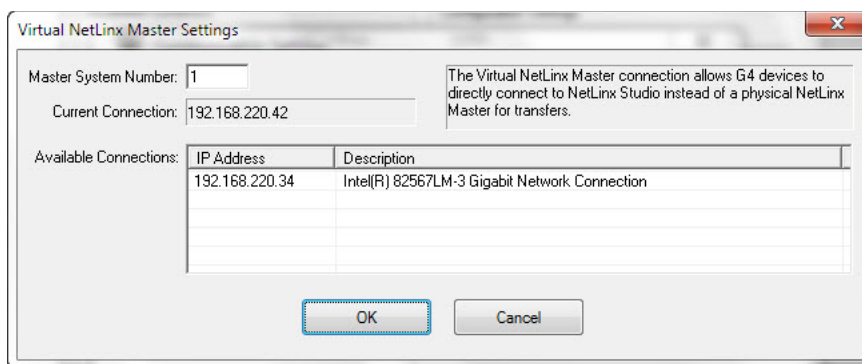

FIG. 29 Virtual NetLinx Master Settings
5. Click the **Edit Settings** button on the *Communications Settings* dialog to open the *Virtual NetLinx Master Settings* dialog (FIG. 29).